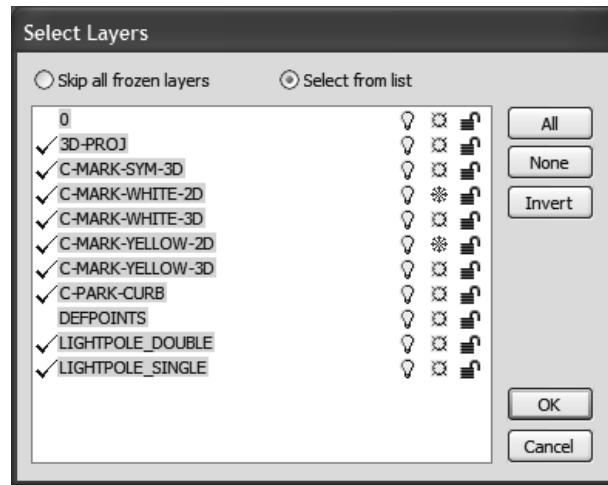

Figure 3–26
12. In the Manage Links dialog box, click . Note that the parking lot details have been added to the scene, but are located far away from the origin, as shown in the Top viewport in Figure 3–27. Close the Manage Links dialog box.